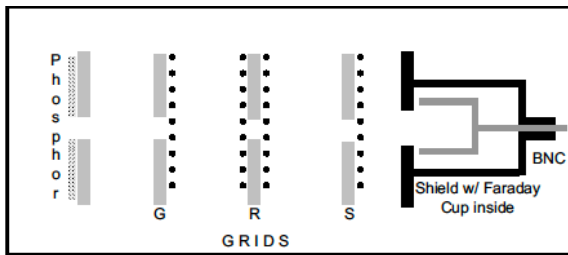

Figure 2. Schematic of Faraday Cup FC-72 with optional grids and phosphor screen.
The FC-72 Faraday cup can have a set of three grids so that it can be used as an energy analyzer. These grids are, in the order that the electrons or ions go through them: ground, retarding, and suppression, labeled G, R and S in the Fig. 2 schematic below.
- a. For the retarding grid (R in Fig. 2): Connect a 0 to 1000 V power supply (negative for electrons or negative ions, and positive for positive ions) through a vacuum electrical feedthrough to the pins on the second grid plate using Teflon-coated stainless steel wire with a spring connector end.
- b. For the suppression grid (S in Fig. 2): Similarly connect a 0 to 50 V power supply to the pin on the third grid plate.